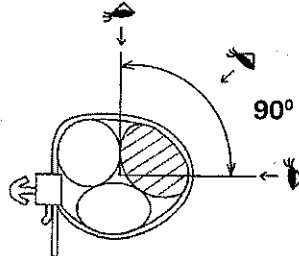

Figure 4
1. Reroute the ignition switch lead wire correctly (Figure 3 and Figure 4). The ignition switch lead wire should not be covered by the other wire harnesses.